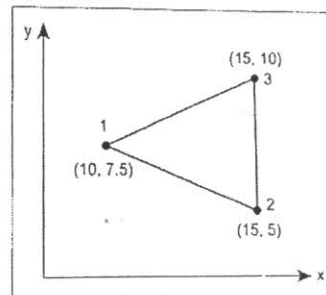

Fig.Q6.
6. a) Develop the stiffness matrix for CST element as shown in the Fig.Q6.